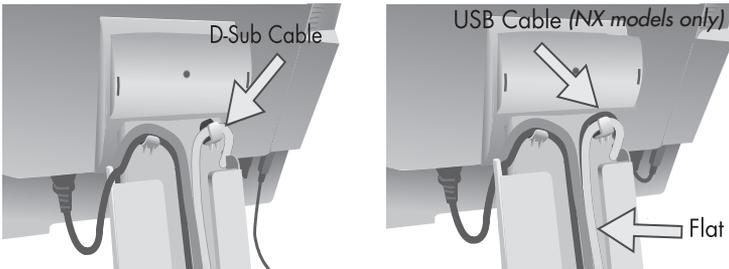

Figure 8
9. Hold the all cables firmly and place the cable cover onto the stand (Figure 8). To remove the cable cover, lift the cover off as shown in (Figure 9).